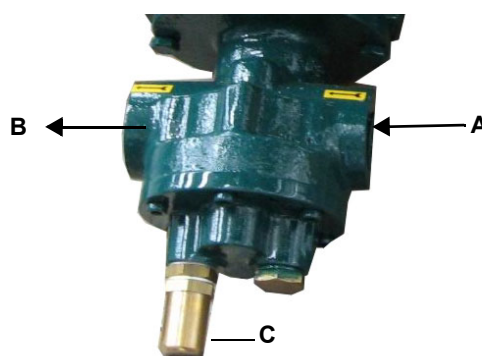

Fig. 5 - Cucchi
- Pressurised boilers with flame reversal: in this case the blast tube must penetrate **Dm** 50 ÷ 100 mm into combustion chamber in respect to the tube bundle plate.(Fig. 5)